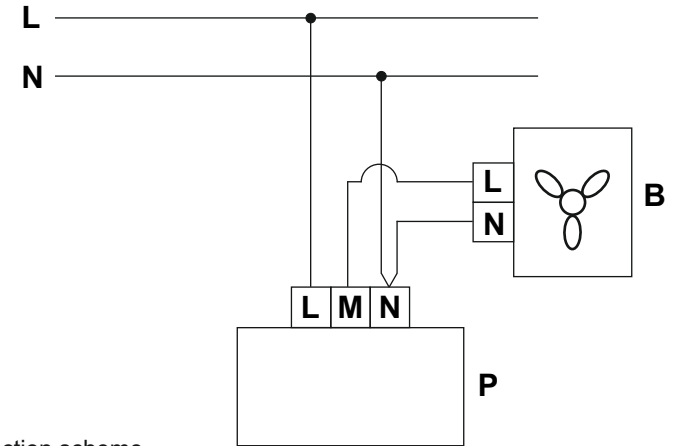

Fig. 3 Controller connection scheme
- to connect wires to terminal block located on controller board according to connection scheme (Fig. 3) and label on terminal block;